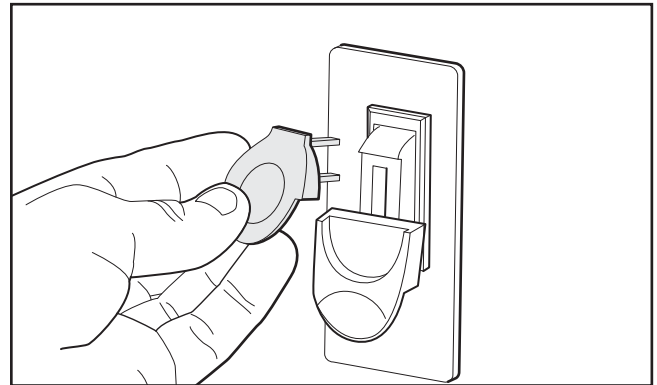

Figure 15. Removing switch key from paddle switch.
9. Turn the machine **OFF**, and remove the switch disabling key, as shown in **Figure 15**.